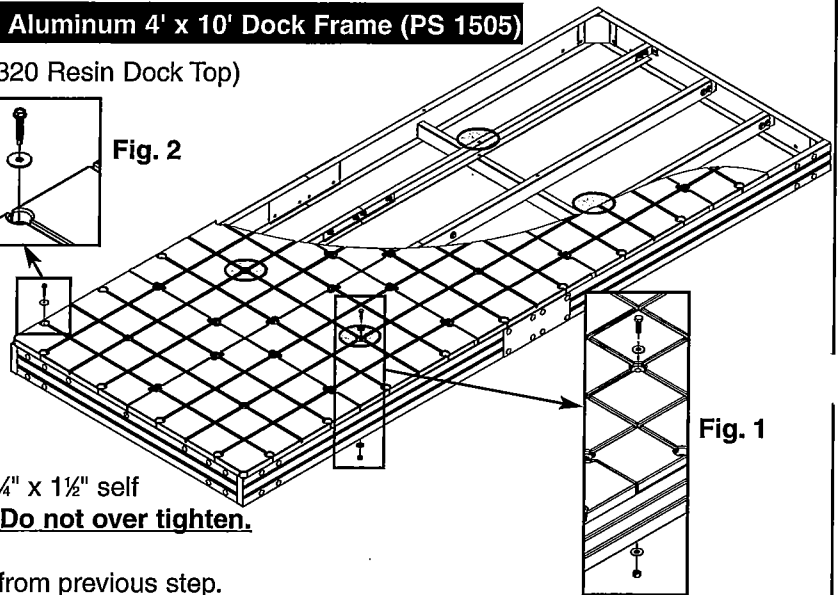

Fig. 1
**Finger tighten**  $\frac{3}{8}$ " x  $1\frac{1}{4}$ " hex bolts,  $\frac{3}{8}$ " flat washers, and  $\frac{3}{8}$ " lock nuts at each circled location. **Fig. 1**